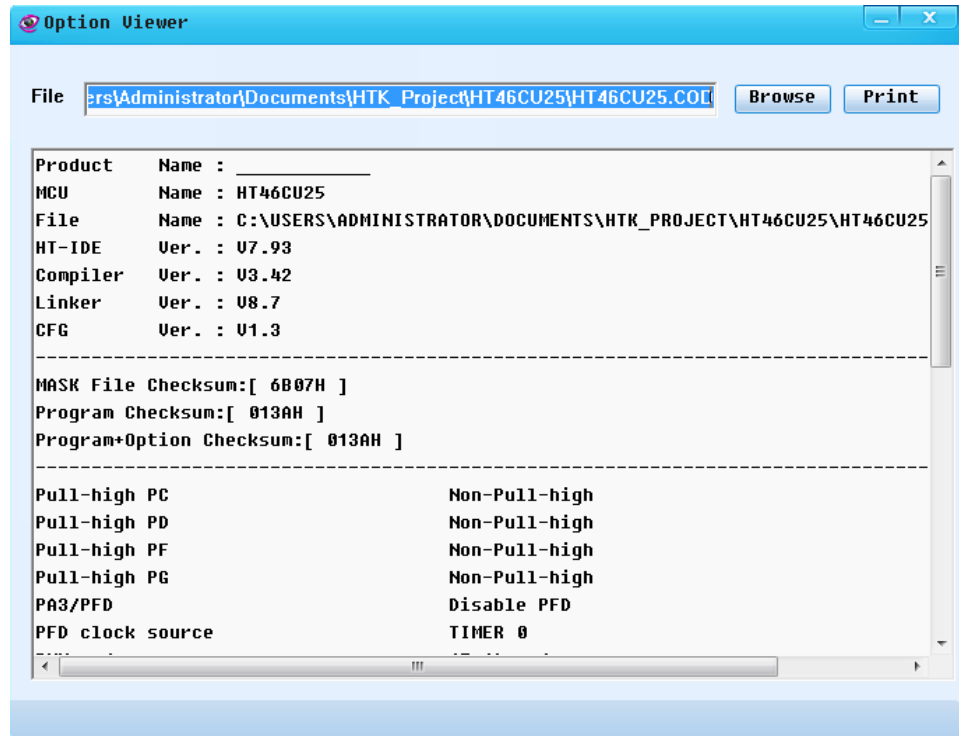

Fig 2-1
- Click on the Project menu and select the Option Table Viewer command. Fig 2-1 will then be displayed, after which click on the Print button to print the configuration options